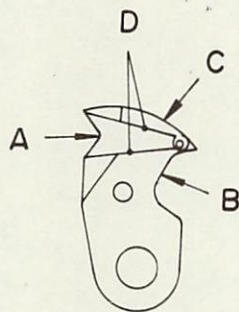

Fig.26
2) Moving knife is bruised (Fig.26)